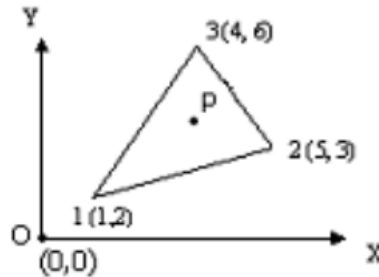

Figure: 3
- (b) The nodal coordinates of the triangular element are shown in figure 3. 9M